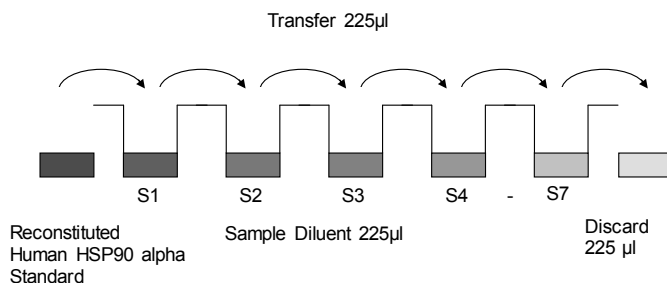

Fig. 7 Dilute standards - tubes
- Repeat serial dilutions 5 more times thus creating the points of the standard curve (see Figure 7).